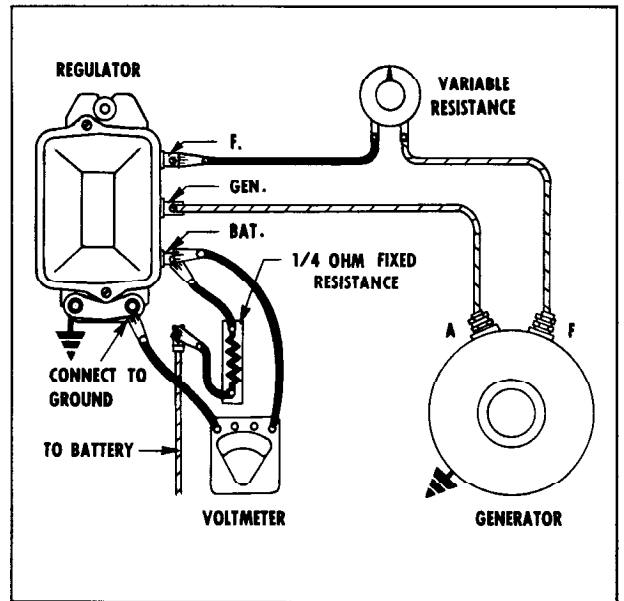

Fig. 13-18 Checking Voltage Setting (40 Ampere)
- To properly check the voltage regulator, the battery must be fully charged or a 1/4 ohm fixed resistor should be connected in series with the battery between the battery terminal on the regulator and the battery wire. (Fig. 13-18) This will limit current flow to the battery to less than 10 amps.